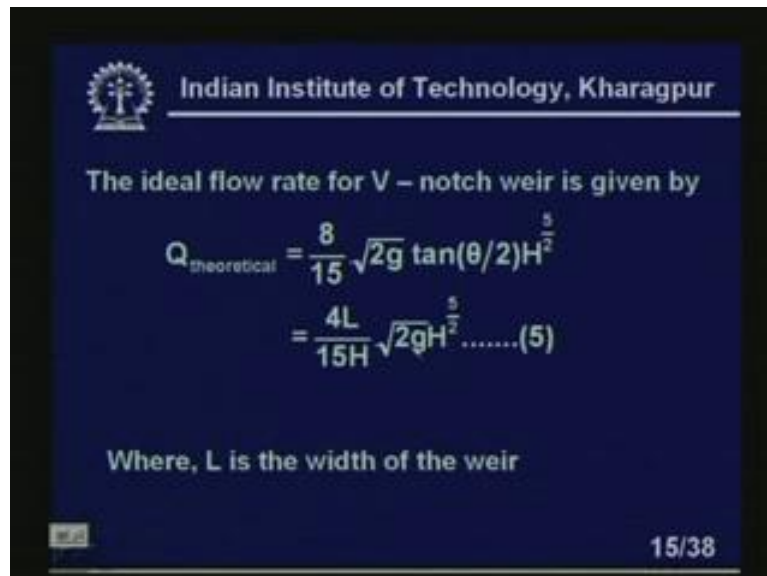

Fig 4: V – notch weir
This type of weir is more accurate than the rectangular weir, right? It is for the low velocity flow rate, but it is more accurate, right? A V notch weir, as you can see, is shown in figure 4, right? You see here also, so this is the length of the V notch weir. This is also restrictions. Instead of rectangular, this type of weir we will put it and so this is, it is slowly increasing. This is the included angle theta. As before, we have taken a section dh from the top of, from top of the undisturbed flow region, h and H is the height head of the weir. As the liquid flow increases, this head will increase, will go up. H will increase, please note because in the previous case also we have seen that this H has increased, right?
- A V – notch weir is shown in Fig 4